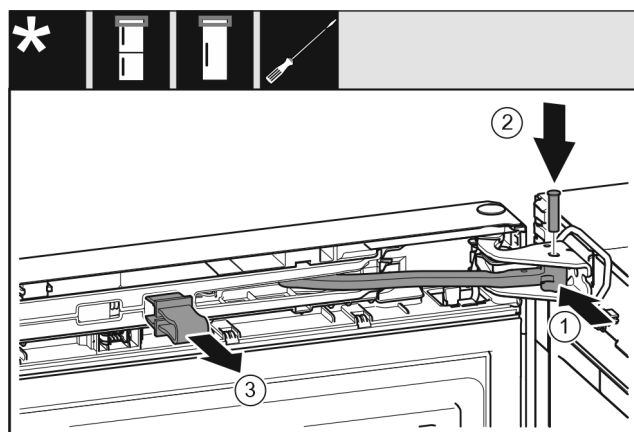

Fig. 56
- ▶ Turn the joint Fig. 56 (1) in the swap bearing block.
- ▶ Insert the pin Fig. 56 (2) into the swap bearing block and joint. In the process, make sure that the latching cam is correctly positioned in the groove.
- ▶ Remove the locking device Fig. 56 (3).